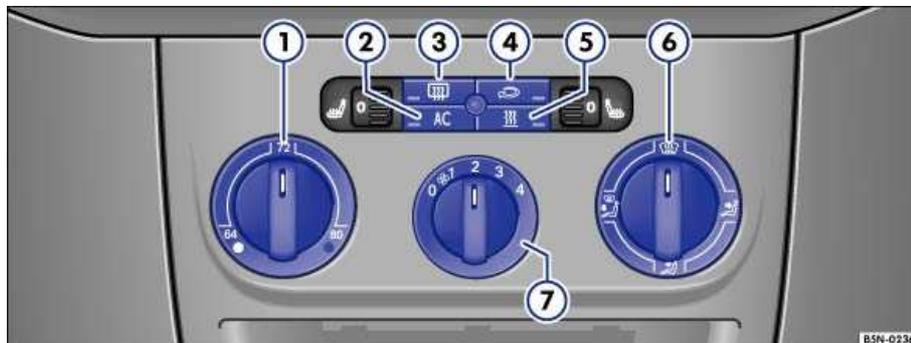

Fig. 100 Climatic air conditioner controls in the center console.
- Use controls (1), (6) and (7) in the center console to set and adjust temperature, air distribution and fan speed ⇒ Fig. 100.
- Press the appropriate button (2) to (5) to switch the function on or off. When switched on, a light in the button comes on.
- (1) Temperature setting ⇒ page 150.
- (2)  button – switches the air conditioner (compressor) on. When the button indicator light comes on, the air conditioner is on.
- (3)  button – Rear window defogger. It is switched off automatically about *10 minutes* after you switch it on. It can also be switched off by pushing the button again.
- (4)  button – Air recirculation mode ⇒ page 152.
- (5)  button – Windshield defroster³². With the engine running, press the button  ⇒ Fig. 100 to switch on the windshield defroster. An indicator light in the button comes on when the defroster is switched on. The windshield defroster stays on for a few minutes and then switches off automatically.
- (6) Air distribution control – Use it to direct the air flow where you want it ⇒ page 150.